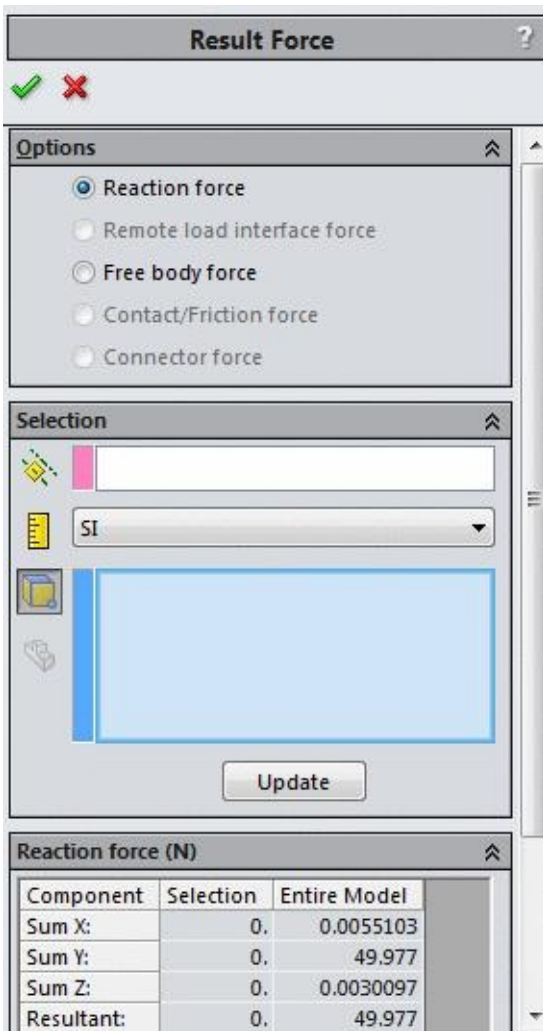

Figure-92. Result Force PropertyManager
- Click on the **Result Force** tool from the **Results Advisor** drop-down. The **Result Force PropertyManager** will be displayed as shown in Figure-92.